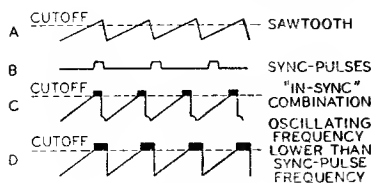

Fig. 71
across the capacitor  $C_2$ . A portion of this sawtooth is fed back to the grid of the control tube,  $V_1$ . The positive sync pulses are also applied to the grid of  $V_1$ . The waveforms shown in Fig. 71 illustrate the sawtooth and sync pulses (A and B) and their proper "in-sync" combination (C). The sync pulse occurs partly during the portion of the sawtooth voltage in which the triode  $V_1$  draws current. Any shift in sync pulse as it is superimposed
For example, waveform D in Fig. 71 illustrates a condition in which the sawtooth voltage is advanced in phase with respect to the sync-pulses. The widening of the pulse which occurs at the corner of the sawtooth waveform allows the control tube to conduct more current and, consequently, allows the capacitor  $C_1$  to charge to a higher voltage. This increased reference voltage also appears in the grid circuit of  $V_2$  and makes the grid more positive. The increased grid voltage then speeds up the frequency of oscillations until proper synchronization results.